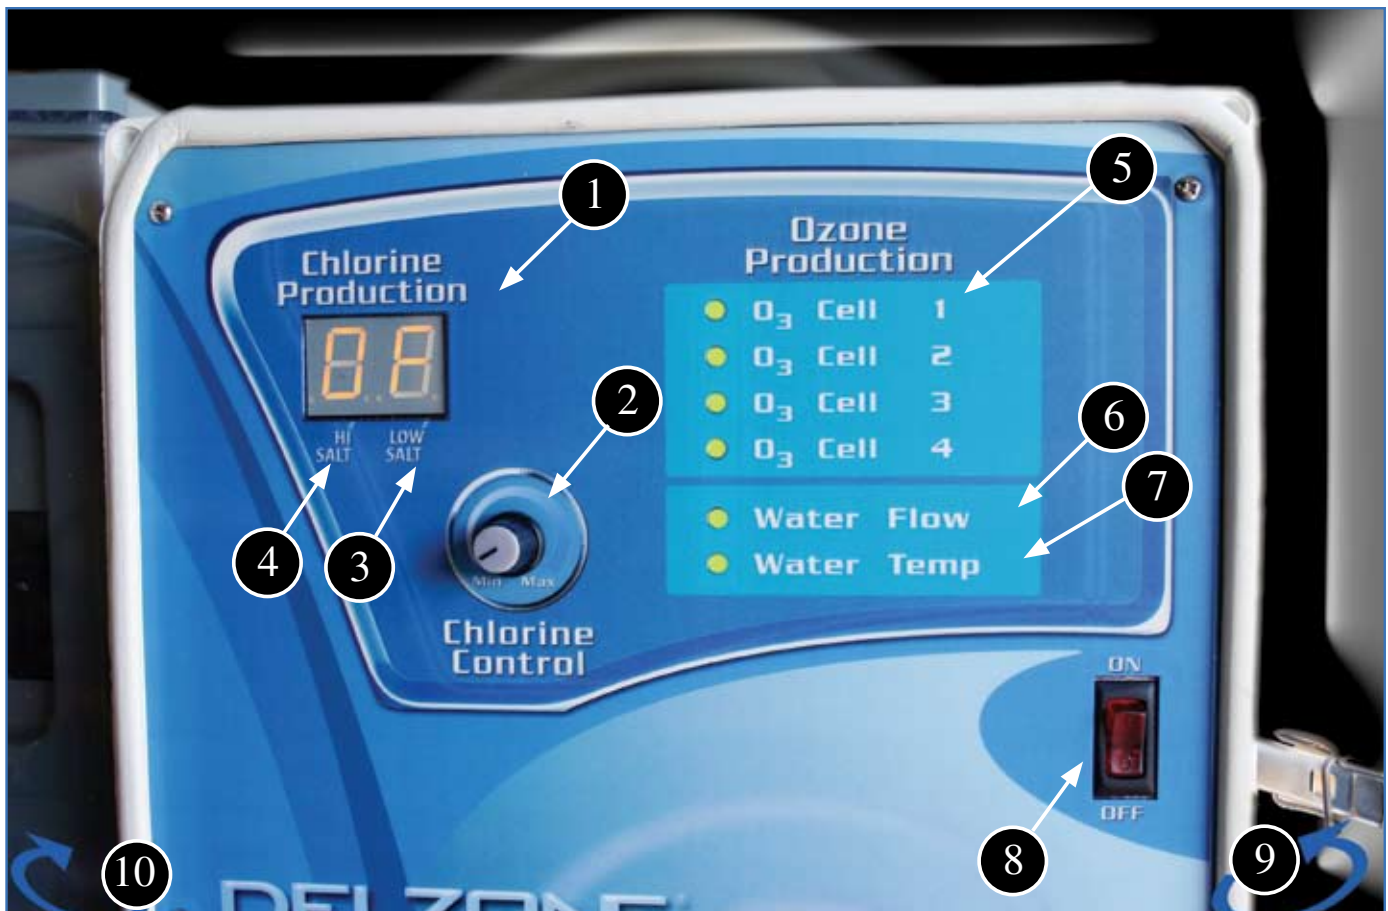

Figure 8
**Step 3 -** Become familiar with the controls, indicators, and features of the TrioPure™. See **Figure 8** below (TrioPure™-50 shown)